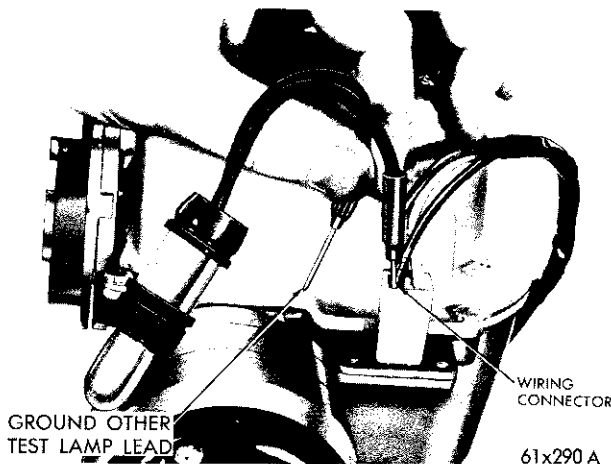

Fig. 4—Testing Wiring Circuits
- (1) Turn the ignition switch to the "On" or "Accessory" position. **DO NOT START THE ENGINE.**
- (2) Pull out the auto-pilot control button in the center of the instrument panel control. **Leave the button out for all of the electrical tests.** If the control button will not stay out, test for a blown fuse, feed wire disconnected or poor grounding of the control.
- (3) **Terminal No. 1 (Red Wire)**—using a test lamp, ground one of the test lamp leads and touch the other lead to terminal No. 1 (Fig. 4). The test lamp should light. If the lamp fails to light, test for an "open" circuit in the red wire between the auto-pilot and the ignition circuit.
- (4) **Terminal No. 2 (Blue Wire)**—Ground one lead of the test lamp and touch the other lead to the No. 2 terminal (Fig. 4). If the lamp fails to light, test for "open" connections in the blue wire between the auto-pilot and the auto-pilot brake switch. If the circuit is "open" at the brake switch, test the brake switch adjustment.
(5) **Terminal No. 3 (Black Wire)**—insert one lead of the test lamp in the No. 1 terminal and the other lead of the test lamp in the No. 3 terminal (Fig. 4). The test lamp should light. If the lamp fails to light, test for an "open" circuit in the black wire circuit between the auto-pilot and the instrument panel control. If the lamp still fails to light, inspect the instrument panel control for proper grounding. When the